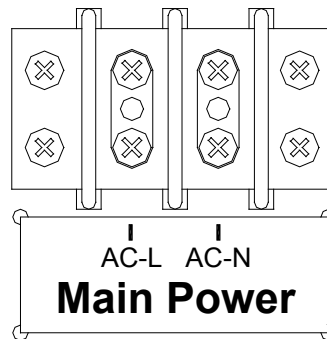

Figure 6 Power Connections
3. Connect the AC line wire and AC neutral wire to the **Main Power** terminal block on the chassis according to figure 6.